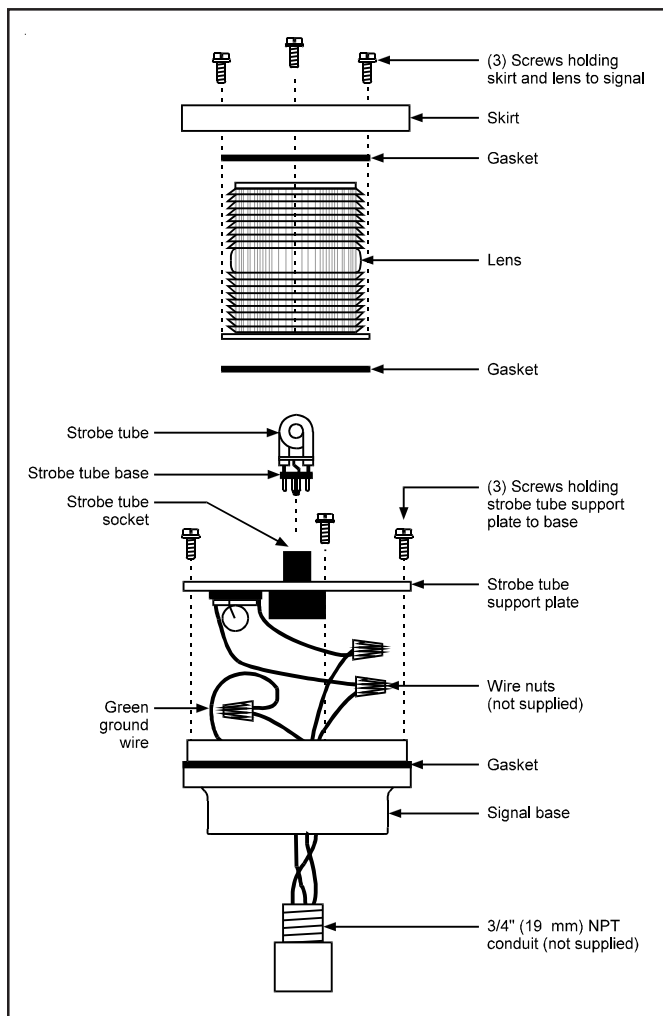
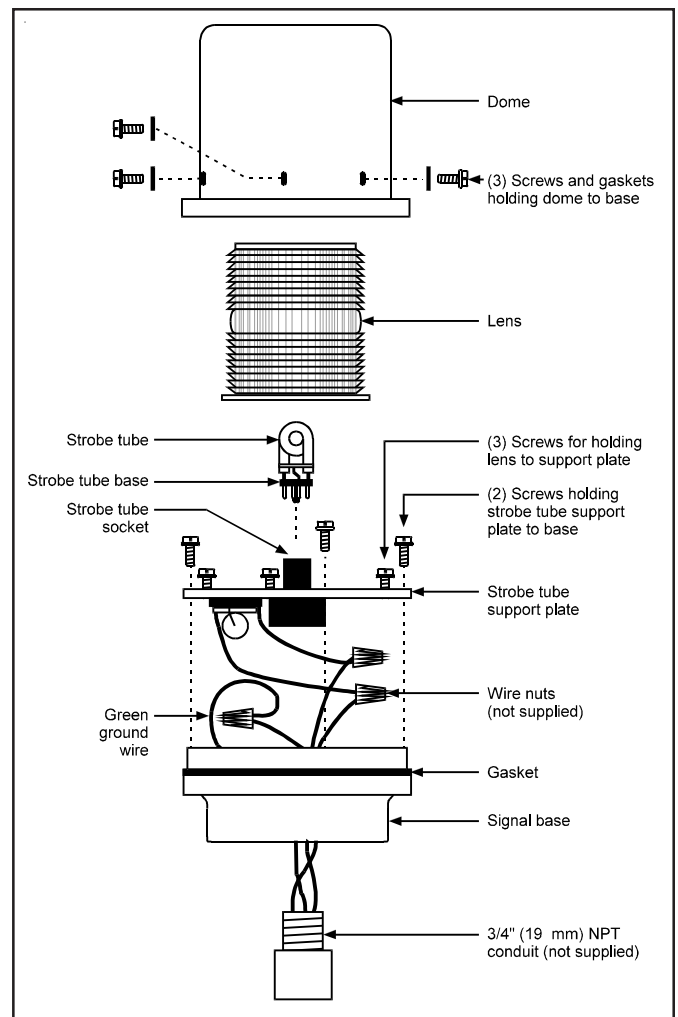

Figure 1. Conduit Mounting of 93 and 97 Series Signals
Figure 2. Conduit Mounting of 94 Series Signal
- 93 and 97 Series:** Refer to Figure 1. Except for the voltage ratings, the 93 and 97 series are identical. Remove the three screws from the skirt, grasp the lens and lift the lens/skirt straight up off of the base. Then, remove the three screws holding the strobe tube support plate to the signal base; grasp the socket (on the strobe tube support plate) and carefully lift the support plate off of the signal base. Proceed to step 2.
- 94 Series:** Refer to Figure 2. Remove the three screws and the rubber gaskets (washers) holding the protective dome to the signal base. Lift the dome and its rubber gasket straight up off of the signal base. Then loosen the three screws in the keyhole slots in the base of the lens, turn the lens clockwise and lift it off of the strobe tube support plate. Next, remove the three screws holding the strobe tube support plate to the signal base; grasp the socket (on the strobe tube support plate) and carefully lift the support plate off of the signal base. Proceed to step 2.
- Route the field wiring from the appropriate power source for the signal through 3/4" (19 mm) NPT conduit and through the conduit entrance hole in the signal base. Refer to Figure 1 for the 93 and 97 series signals and Figure 2 for the 94 series.
- a. **93 and 97 Series:** Refer to Figure 1. Remove the three screws from the skirt, grasp the lens and lift the skirt and the lens straight up off of the signal base. Proceed to step 2.
- b. **94 Series:** Refer to Figure 2. Remove the three screws and the rubber gaskets holding the protective dome to signal base. Lift the dome and rubber gasket off the signal base. Loosen the three screws in the keyhole slots in the base of the lens, turn the lens clockwise and lift it straight up off the strobe tube support plate. Proceed to step 2.